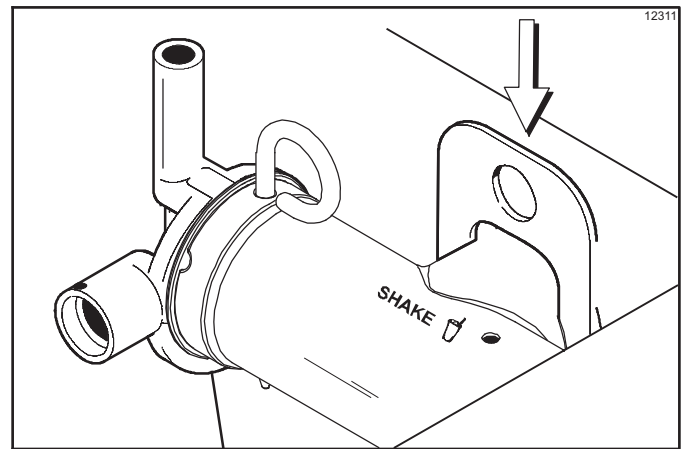

Figure 6-36
- Install the air/mix pump assembly at the rear of the mix hopper. To position the pump on the drive hub, align the drive slot in the piston with the drive crank of the driveshaft. Secure the pump in place by slipping the pump clip over the collar of the pump, making sure the clip fits into the grooves in the collar. (See Figure 6-36.)